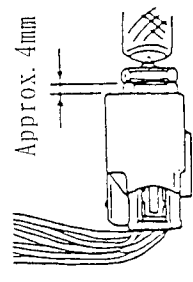

Fig. 5 NG
- 3) If the terminal alignment is not acceptable, the gauge will interfere with the terminal and stop approx. 4mm from the end of the shroud. In this case, do not push the gauge. (Refer to Fig. 5)